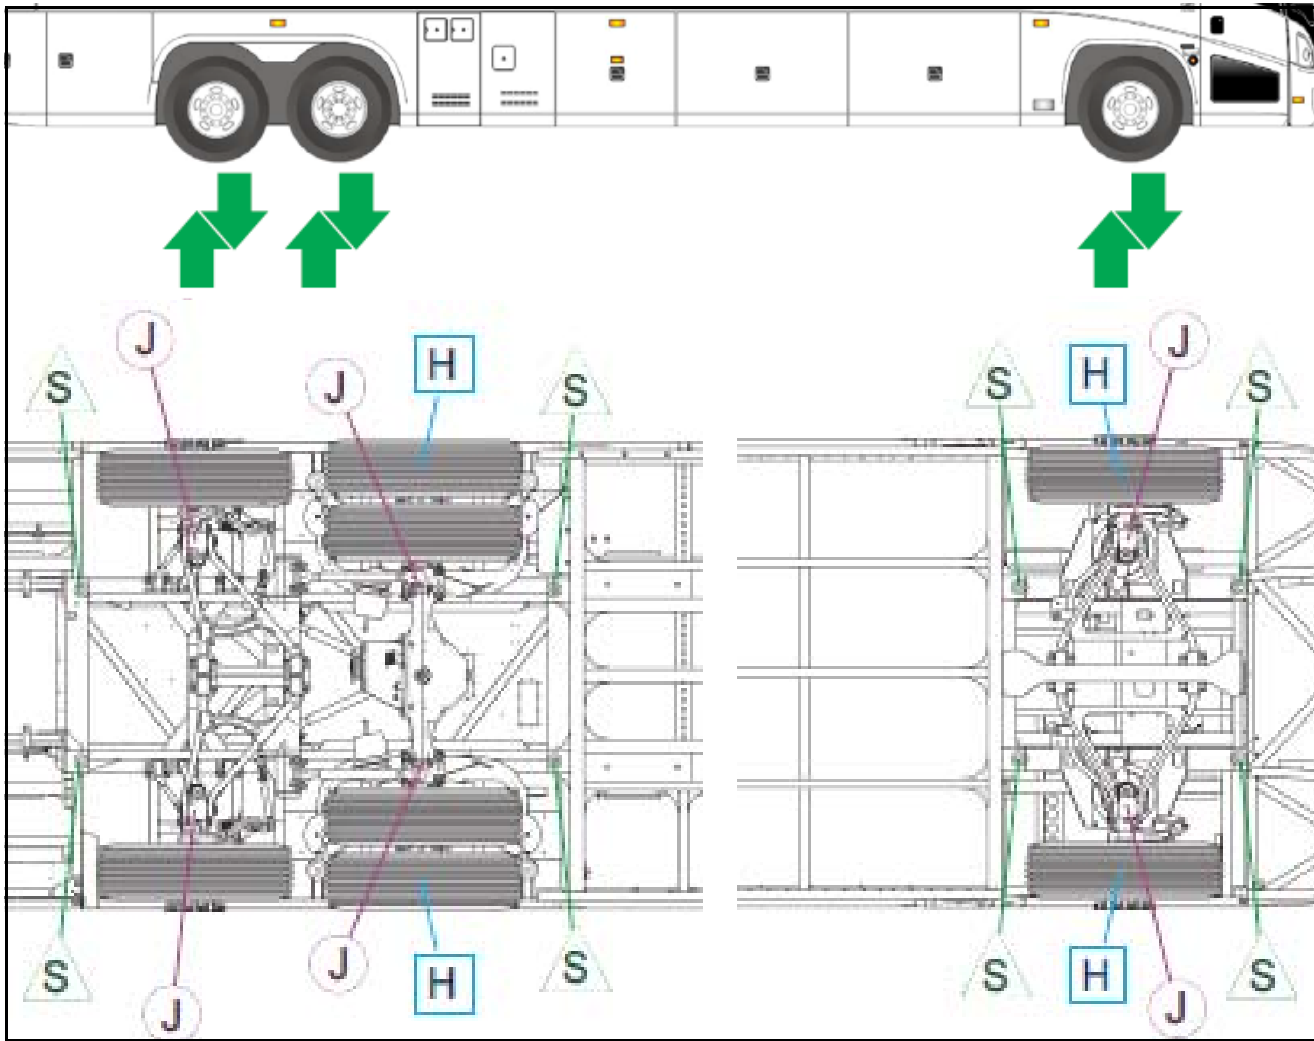

Figure 1. J4500 coach safety stands location.
3. Position a jack under the drive axle jack pad, using the locations shown in Figure 1 or 2 on Pages 4 or 5 of this document, and partially raise the coach with the tire still contacting the ground.
7. Lift the coach to desired work height. Position safety stands underneath the coach in only the specified locations shown in Section 3F in the MCI J4500 Maintenance Manual and Sections 3F and 3G in the MCI D Series Maintenance Manual (as shown in Figures 1 and 2 on Pages 4 or 5 of this document).
Item	Figure 1 Description